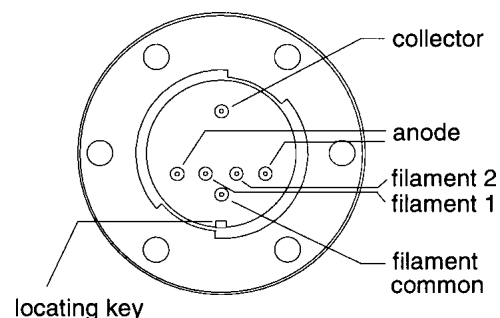

Figure 3-1 Stabil-Ion Gauge Pin and Locating Key Locations
- Any mounting orientation may be used. However, to minimize the possibility of excessive temperature at the electrical connector when degassing, it is best not to install the Stabil-Ion Gauges with the electrical connector above the gauge. If it is necessary to install the gauge with the connector on top, degas time must be limited to 10 minutes/hour. See Section 4.3.4.2 on page 4-12. When mounting horizontally, the ventilation slots in the Guard will be oriented for best cooling if the gauge is installed with the locating key in the pin guard on the bottom. See Figure 3-1 and Figure 3-2. Note in Figure 3-2 that the cable will exit in the direction the locating key is oriented.